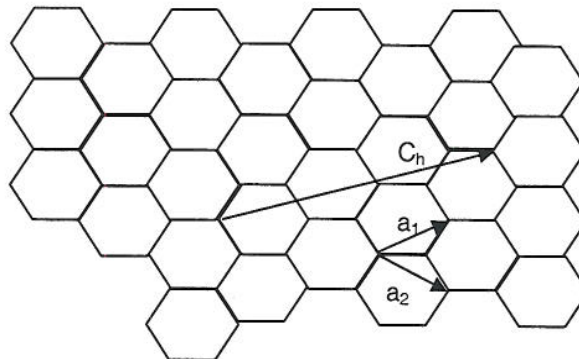

Figure 4: Honeycombed lattice of a graphene sheet.
- i) Given the unit vectors  $a_1$  and  $a_2$  and the angle  $\theta$  between the direction of  $a_1$  and the chirality vector  $C_h$  as given in fig.4, plot the chirality vector for a zig zag and for a stair case carbon nanotube. [4]